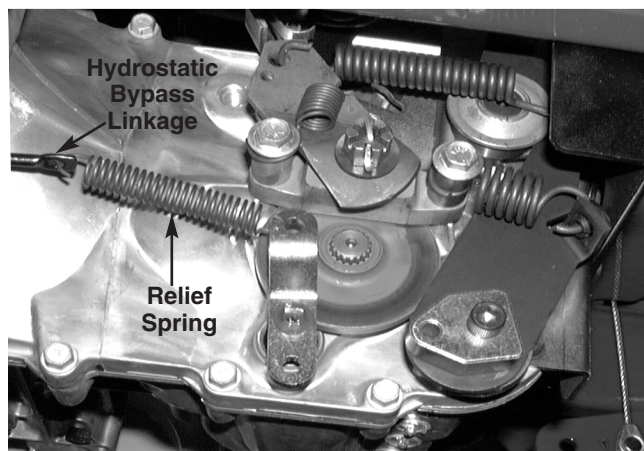

FIGURE 11.
18. Remove the hydrostatic relief spring from the hydrostatic bypass linkage and set it aside. See figure 11.